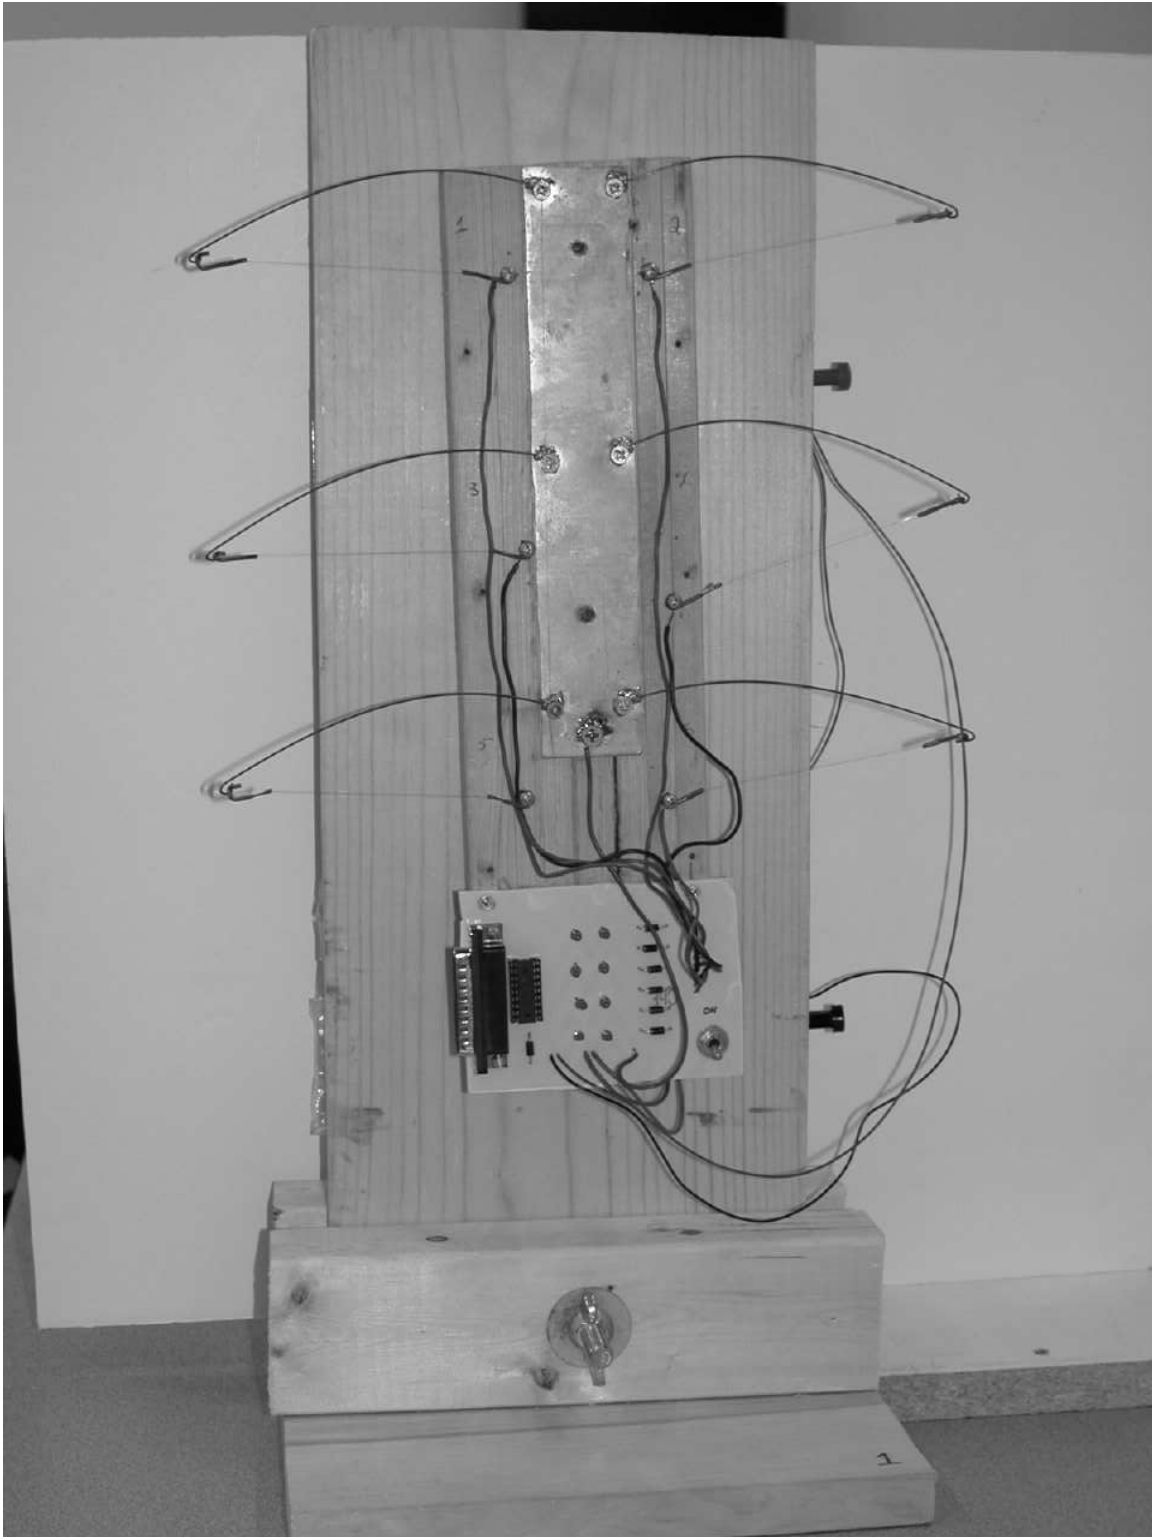

Figure 24: Stiquito™ emulator
2. Examine the StiquitoTM emulator shown in Figure 24. The emulator has pieces of “springy” music wire that act as mock legs. The end of the music wire is connected to a piece of nitinol wire that acts as the leg muscle. The nitinol wire pulls on the music wire and forces it to bend slightly; thus the nitinol is under a constant tension. When a current is passed through the nitinol wire, the nitinol wire contracts, and the music wire is further bent. When this current is removed, the music wire re-stretches the nitinol wire. The result is a leg movement.